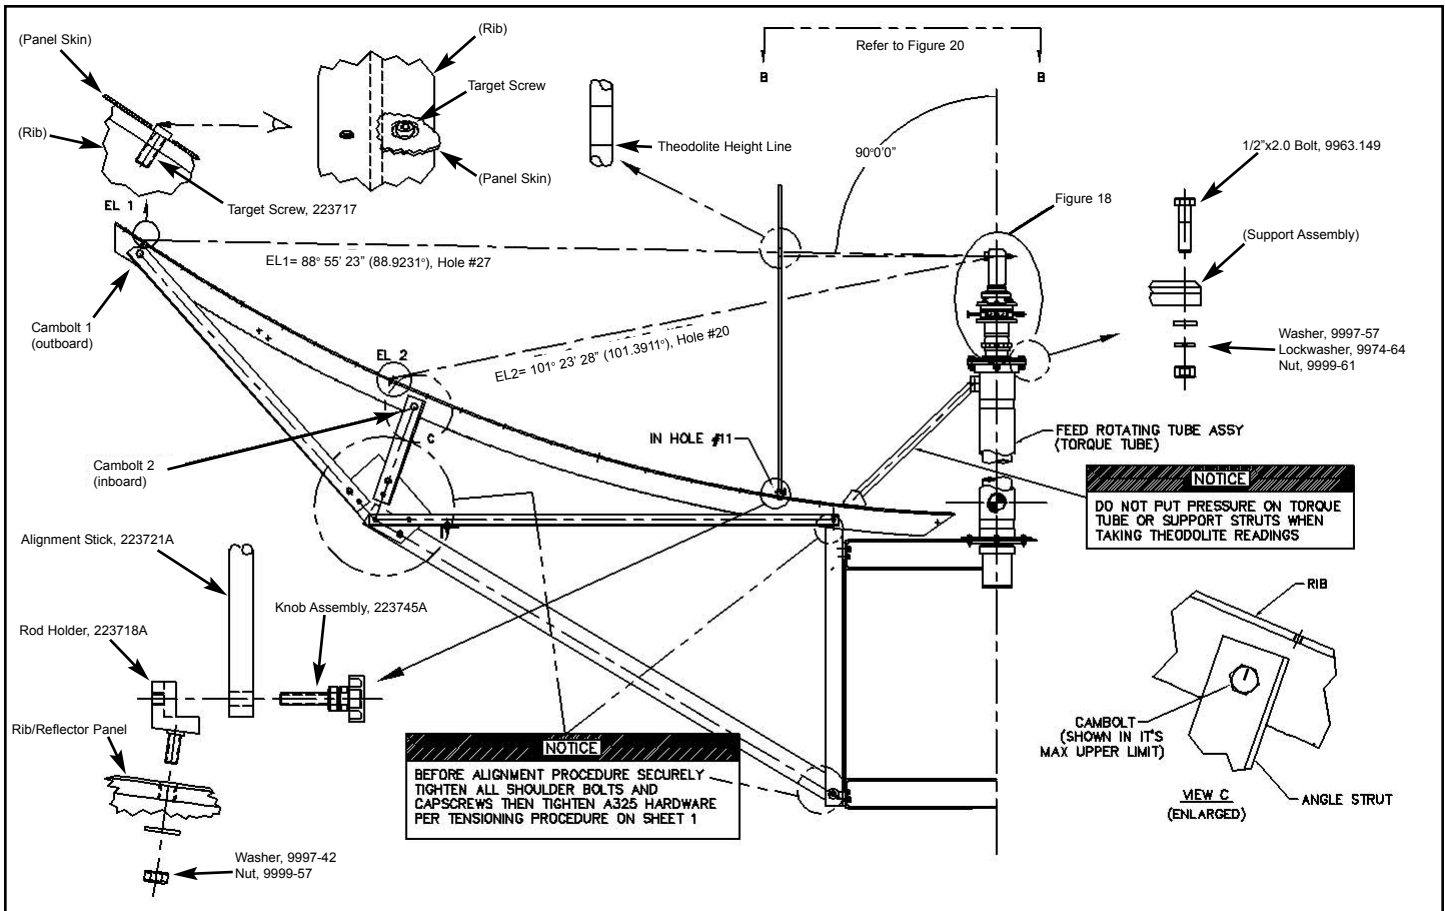

Figure 19
Install brass rod holders in seam hole #11 on rib #2, 7, & 10 in Figures 19 and 20. Reflector seam screws must first be removed in these locations. Make sure the bottom of the rod holders are sitting flush on the reflector panels and they are pointed toward the theodolite assembly.
Install target screws in all 16 ribs as shown in Figure 19 (reflector seam screws must first be removed in these locations). Be sure that target screws are fully seated on the rib surface, not the reflector surface. This is best done during assembly of Reflector/Backstructure.
2.1. After the antenna assembly, make sure that all the inboard and outboard cambolts are set to their maximum upper limit. This is accomplished by turning the cambolt until the mark on head of the hex bolt is pointing toward the rib, along the axis of the angle strut (see Figure 19, View `C').
2.3. Before starting alignment, make sure that all the noted hardware associated with the truss assembly is fully tightened. Refer to Figure 19.
2.4 If not yet done, install special target screws at all locations as indicated in Figure 19). Ensure that the screw is fully seated on the rib surface. This is best done during reflector assembly.
3.0 Rib Alignment (Refer to Figure 19):
3.2 Refer to Figure 19. Each rib has two target screws which will be used for panel adjustment. One target screw is located near the outboard cambolt location at seam hole #27. The other target screw is located near the inboard cambolt location at seam hole #20.
Adjust theodolite elevation angle to the 'EL1' value indicated in Figure 19. Point and focus the scope of the theodolite to target EL1 (do not move elevation) located on the rib #1, which is to the right of the top panel (top center of antenna with Andrew 'Flash' logo). While still focusing to the target, have the outboard cambolt slowly rotated until the upper edge of the target screw is within +/-15 seconds (0.0042 deg.) of the theodolite crosshair.
Adjust theodolite elevation angle to the 'EL2' value indicated in Figure 19. Point and focus the scope of the theodolite to target EL2 (do not move elevation) located on the rib #1. While still focusing to the target, have the inboard cambolt slowly rotated until the upper edge of the target screw is within +/-15 seconds (0.0042 deg.) of the theodolite crosshair.